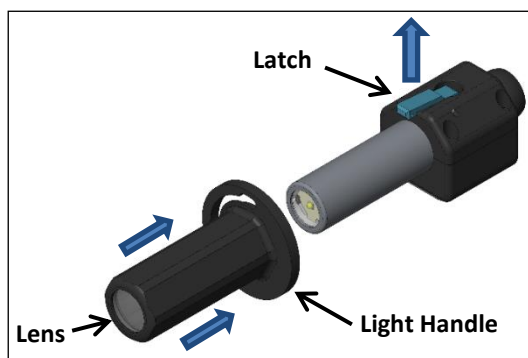
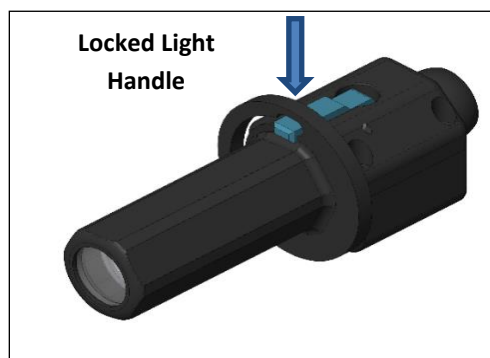

Figure 10.
Figure 11.
- 5) Align the wide end of the groove in the light handle with the latch, as shown in Figure 10, and slide the Light Handle onto the end of the SurgiLight until the latch clicks. The light handle shall now be secured by the latch, as shown in Figure 11. Ensure the elastic ends of the sleeve are secure at the top groove at the base of the battery handle and at the base of the light handle.